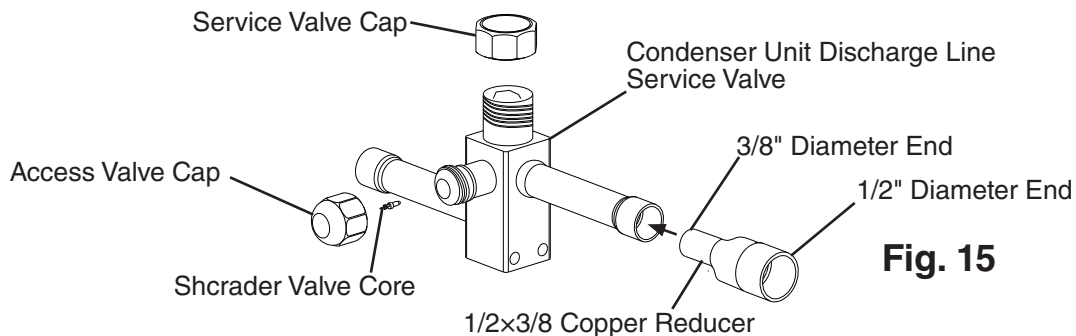

Fig. 15
- b) Place the line set discharge line copper tube (1/2") into the copper tube slip reducer 1/2" end. See Fig. 15.